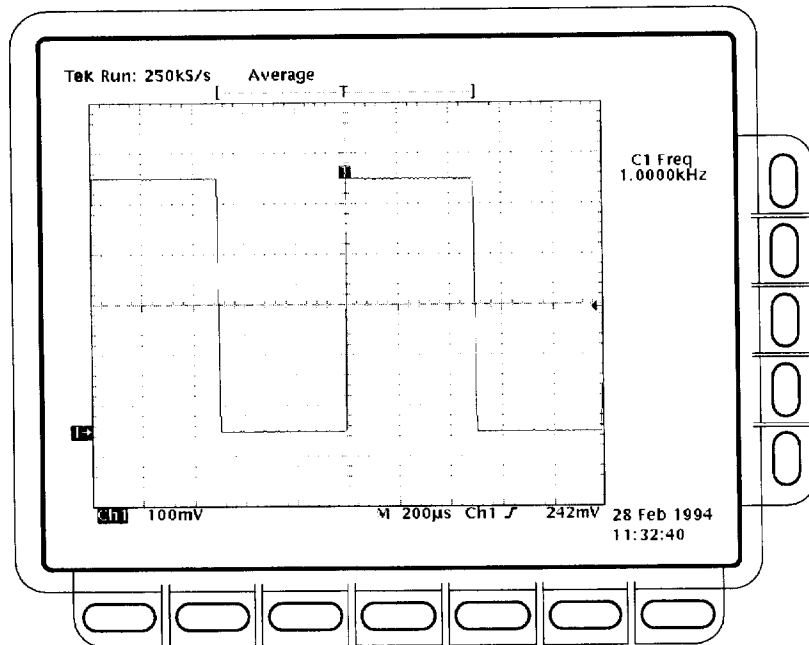

Figure 1–23: Measurement of probe compensator frequency
- CHECK that the **CH 1 Freq** readout is within 950 Hz to 1.050 kHz, inclusive. See Figure 1–23.